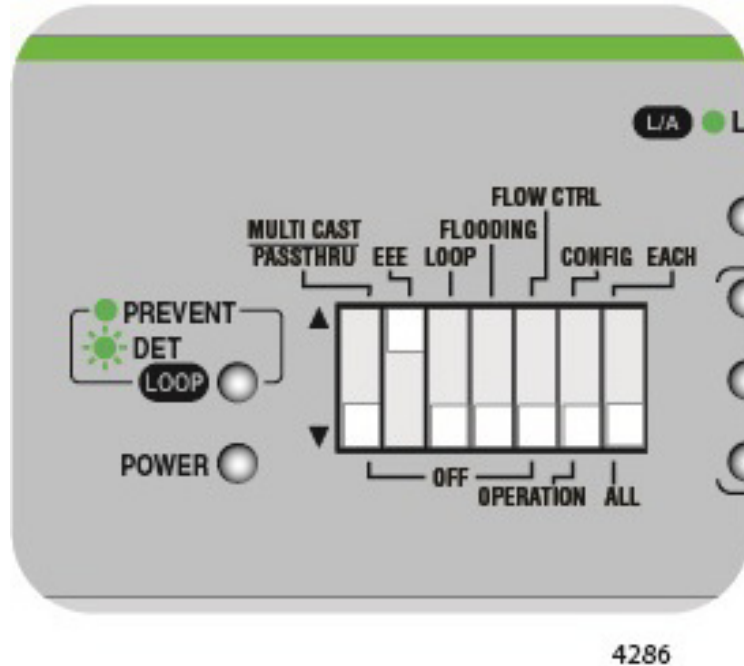

Figure 32. DIP Switch Settings for Enabling EEE
1. Set DIP switch # 2 to the UP position to enable this feature. See Figure 32.